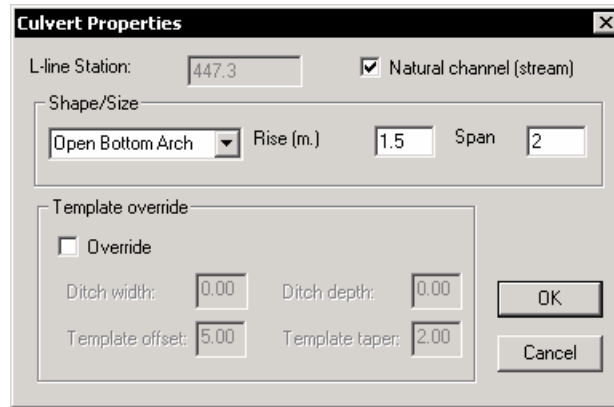

Figure 7.4: Culvert Properties Dialog
9. Press the *Properties* button in the culvert editor and change the dialog to match Figure 7.4. Press *OK*.